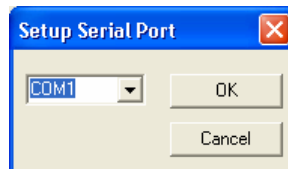

Figure 35 - Setup Serial Port Dialog
1. Choose **Setup** ➔ **Serial Port** from the main menu. The Setup Serial Port Dialog (Figure 35) appears.